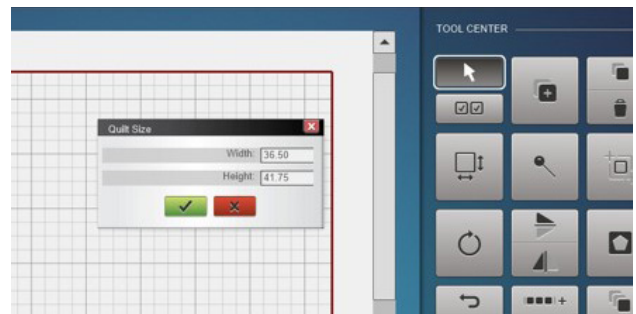

Fig. 63
2. Set the quilt size using these numbers. For example: 36.5" x 41.75" (Fig. 63)